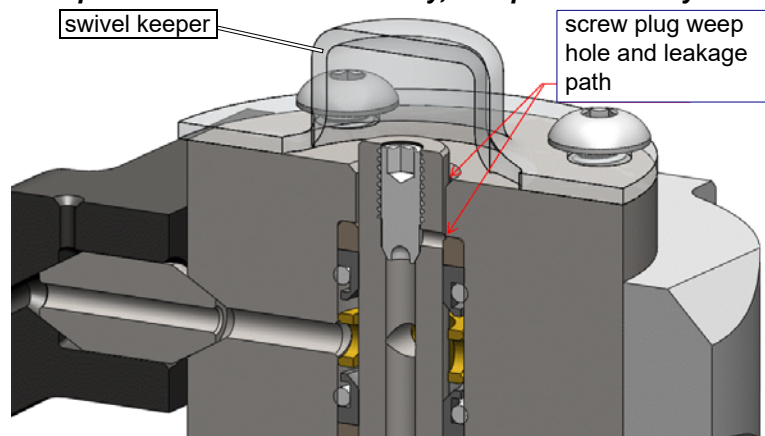

Figure 58
- Ensure that the nipple set screw plug is seated correctly and tightened securely (see Figure 58 for location).
**WARNING!** *Never high-pressure test the A-Jet with the swivel keeper removed (Figure 58). If the nipple has a broken piece in the swivel assembly, that piece could fly out with extreme force.*
**Note:** *Water from a leaking screw plug will not exit through the threads but through the weep hole identified in Figure 58.*